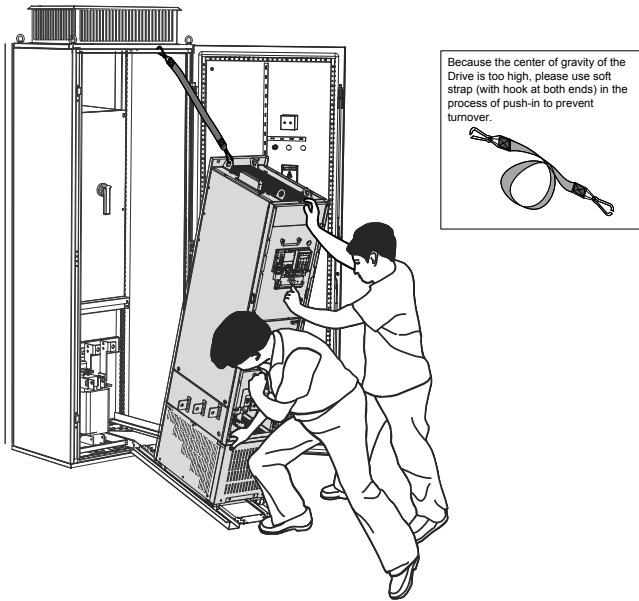
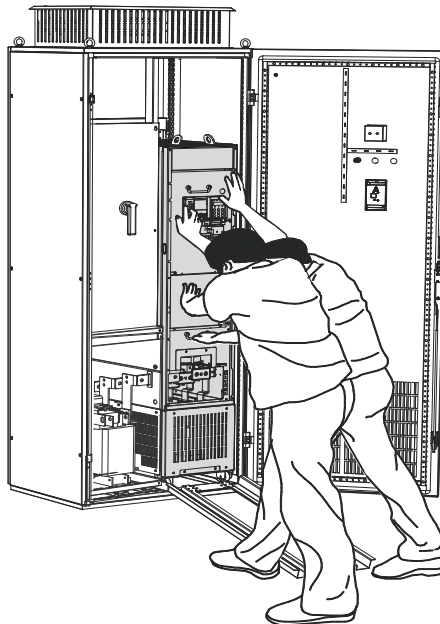

Figure 3-20 Push the drive into the cabinet
Figure 3-21 Push-in completed
- ◆ Make sure to align the castors to the guide rail and arrange two persons for drive push-in and pull-out to ensure safety, as shown in Figure 3-20 and Figure 3-21.
5	Arrange two persons to align castors of the drive to the guide rail and push the drive into the cabinet slowly, as shown in Figure 3-20 and Figure 3-21. Use soft strap in the process of push-in and push-out to prevent turnover.